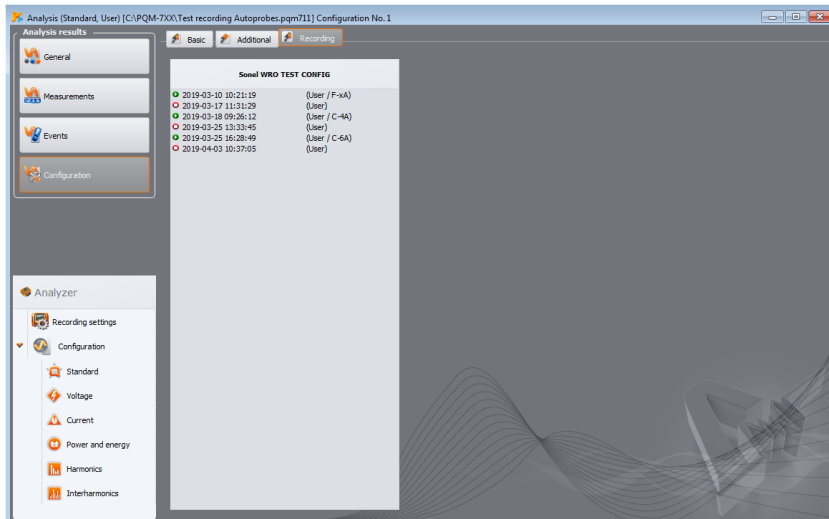

Fig. 74. Configuration view - list of the recording periods with the assigned current probes.
- all recording intervals with date/times and assigned probes (Fig. 74),